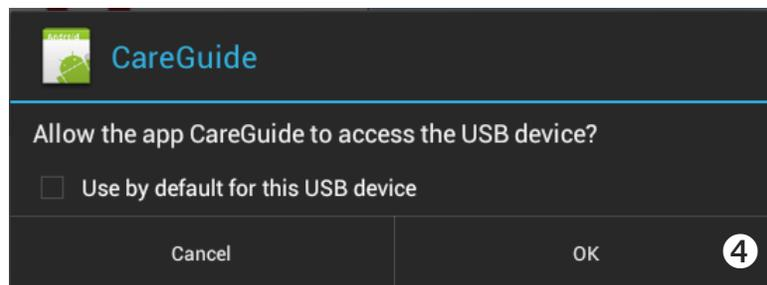

Figure 3. USB Access Prompt
- 4 Click 'OK' when prompted 'Allow the app CareGuide to access the USB device?' (Figure 3 ❹).